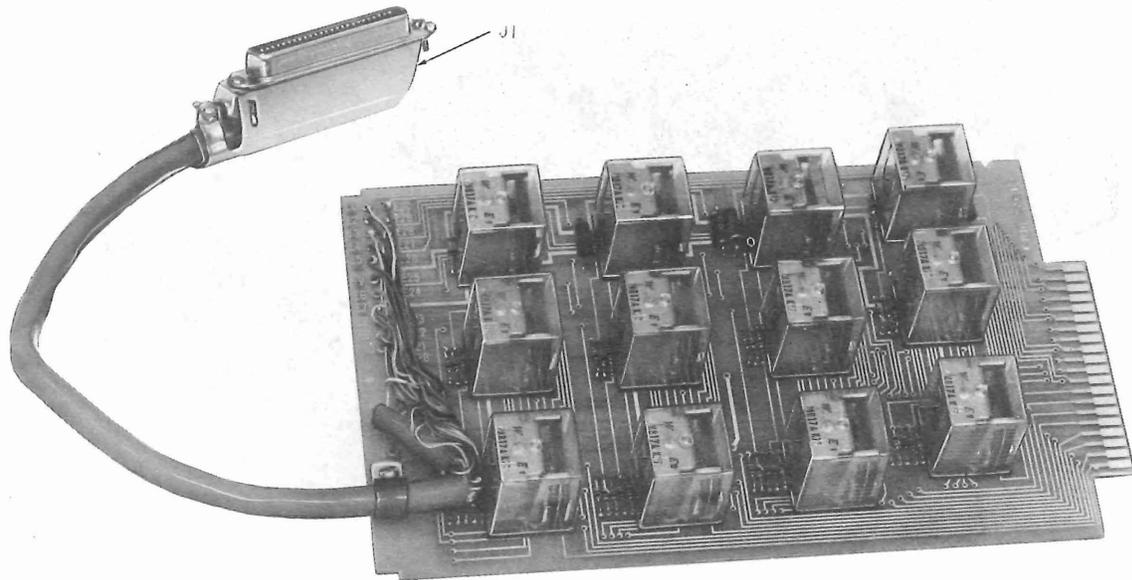

Fig. 3—48C1 Data Unit
**2.08** The 48C1 data unit (Fig. 3) contains the circuitry required to provide a 2-by-4 switching matrix that can connect any one of four 4-wire modems to either one of two 4-wire dial backup channels. The data unit consists of component apparatus mounted on a plug-in printed wiring board. An attached cable and connector J1 permit direct connection to a 48D1 data unit. The 48C1 data unit is housed in a 46C-type data mounting.